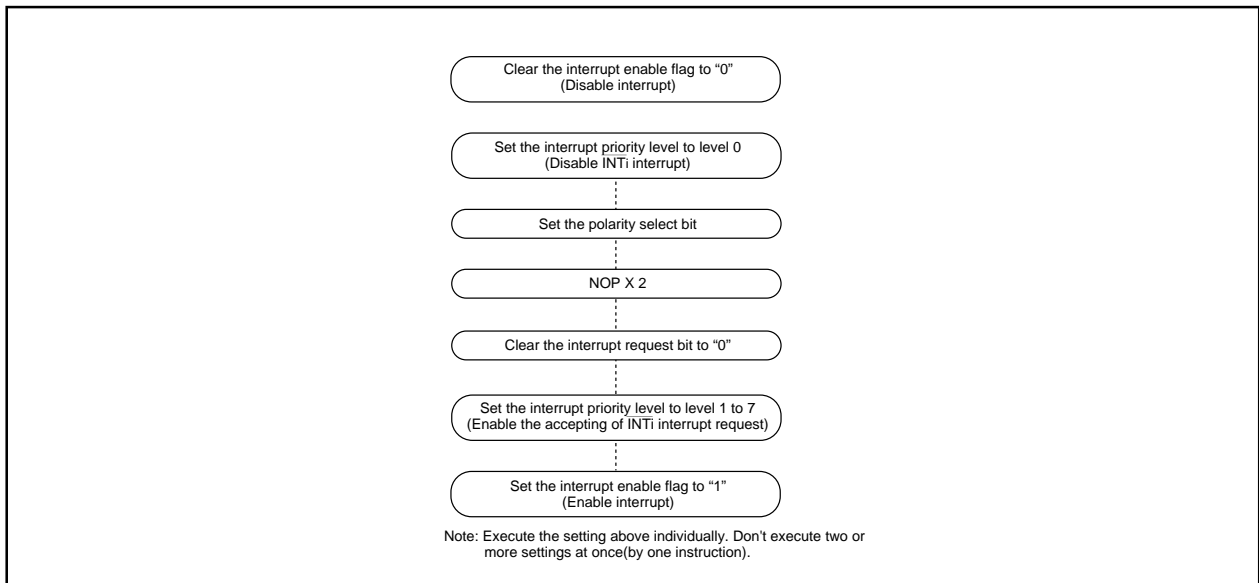

Figure 1.1.1. Switching condition of INT interrupt request
2. When the polarity of the $\overline{\text{INT}}_0$ to $\overline{\text{INT}}_2$ pins is changed, the interrupt request bit is sometimes set to "1". After these changes were made, set the interrupt request bit to "0". Figure 1.1.1 shows the procedure for changing the $\overline{\text{INT}}$ interrupt generate factor.